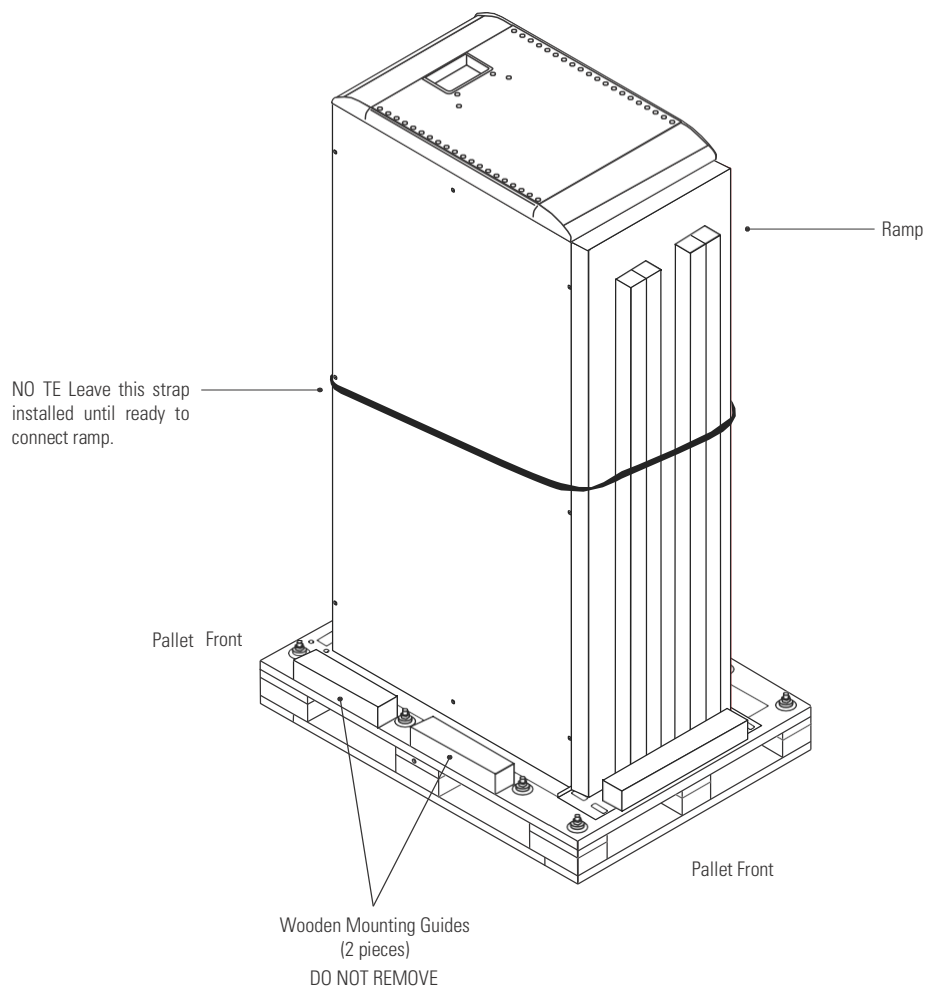

Figure 6. Removing the Ramp
3. Locate the ramp on the back of the cabinet. Hold the ramp in place while you cut the strap that binds it to the system (see Figure 6).